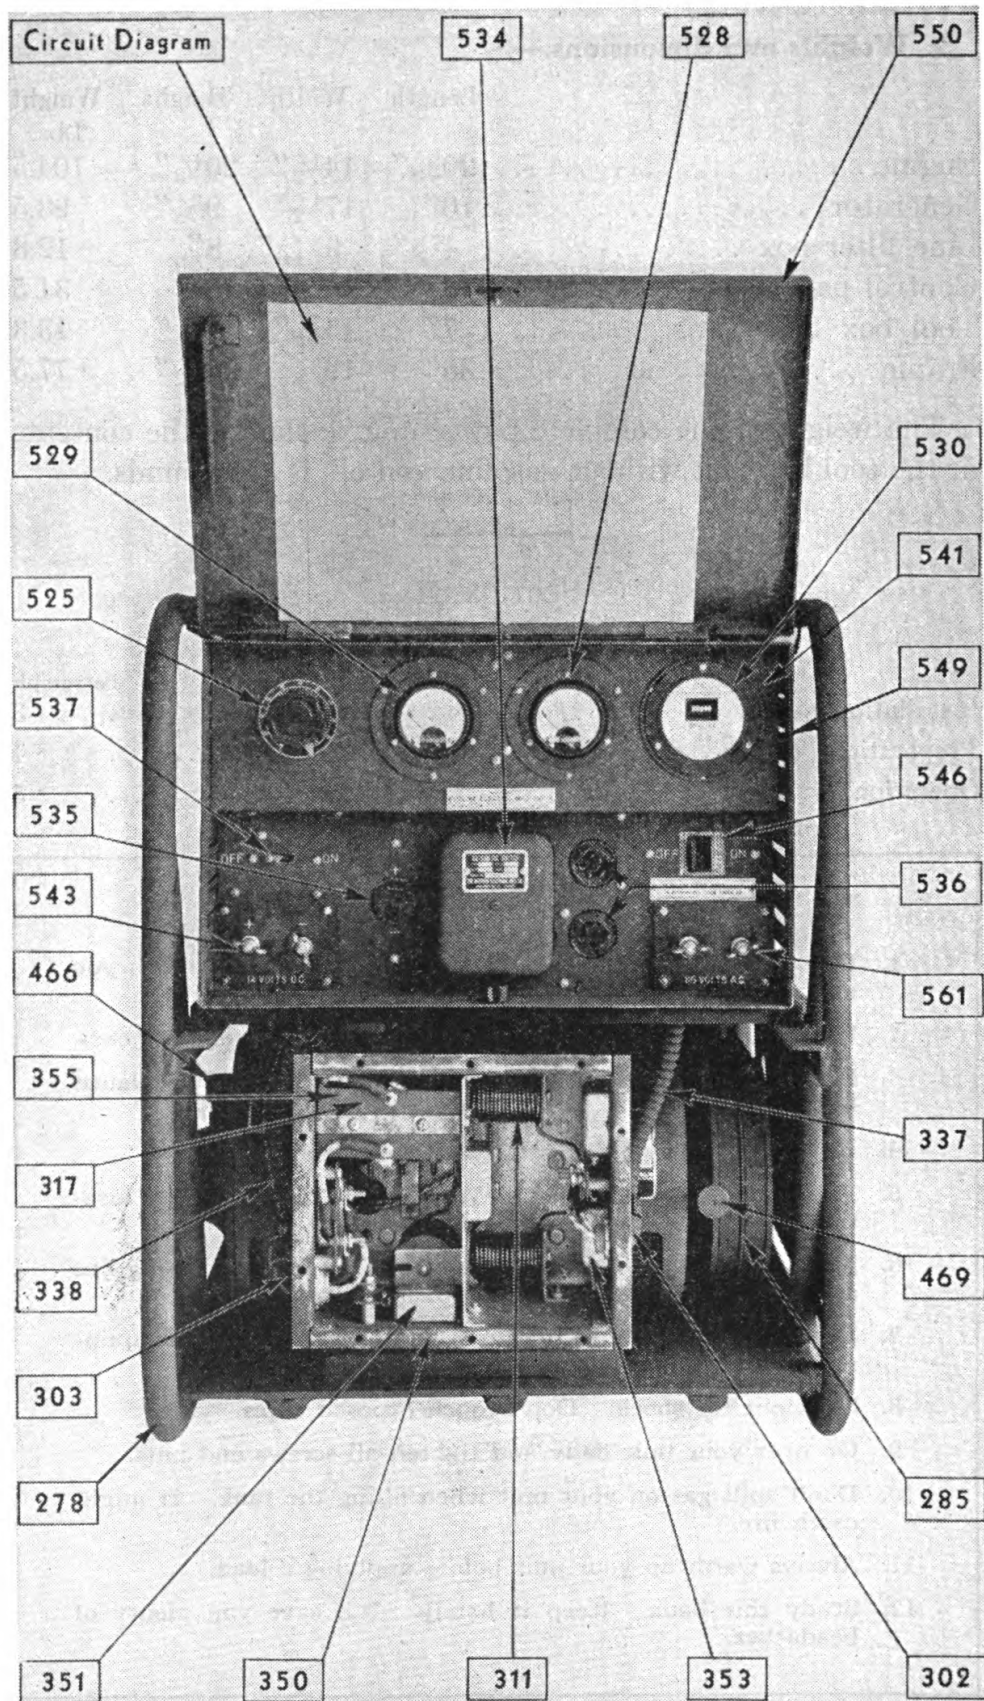
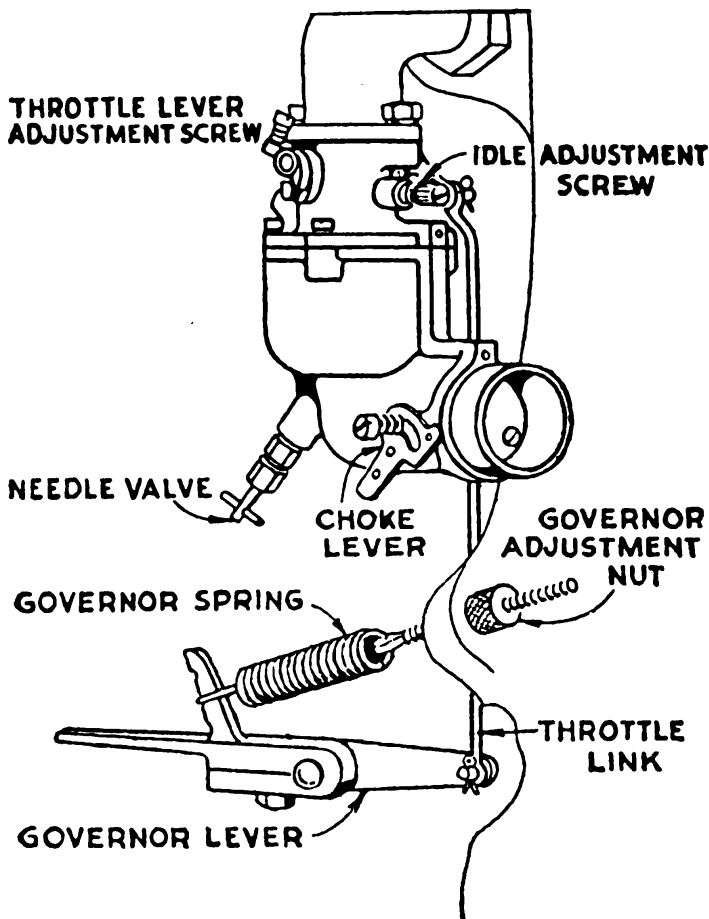

FIG. 4. PANEL BOARD AND FILTER BOX
FIG. 8. CARBURETOR AND GOVERNOR HOOK-UP
c. Line Filter box.—Directly connected to the generator is the line filter box (Fig. 4), which is designed to filter line noises and prevent radio interference on both the a-c and d-c lines. The a-c side contains two radio frequency choke coils of 95 mh inductance at 1500 kc, two .5x.5 mfd. condensers and one .6 mfd. condenser. The d-c side contains two radio frequency choke coils of 63 mh inductance at 2200 kc, one radio frequency choke coil of 95 mh inductance at 1500 kc, one .5x.5 mfd. condenser, one .6 mfd. condenser and three 3.5 mfd. condensers. The a-c and d-c sides are separated by a metal partition and they are both enclosed in a single sheet steel box with a weatherproof cover.
d. Control panel box.—Power leads from the line filter lead directly to the control panel box (Fig. 4), which is shock-proof mounted on the frame just above the generator. The panel board within the box contains a field rheostat which controls both
e. *Load Connections.*—All load connections are made at the control panel board (see fig. 4). The cover of the panel box may be held securely in the open position by means of the eye hook provided on the top of the panel box. The a-c load is connected to the a-c terminals (561, Fig. 4) and/or the lock-type receptacles (536, Fig. 4) on the right side of the panel board. The a-c load is connected to either the d-c terminals (543, Fig. 4) or the polarized receptacle (535, Fig. 4) on the left side of the panel board. The field rheostat (525, Fig. 4) located on the panel board controls both a-c and d-c voltage. The rheostat (531) on the rear side of the panel board controls the d-c output for charging 6 and 12-volt batteries. When using the a-c and d-c circuit at the same time, set as follows: regulate the field rheostat (525) to the determined a-c voltage, then adjust d-c charging rate with the rheostat
(531) located on the rear side of the panel box. In case the d-c load lowers the a-c voltage, readjust both rheostats. **CAUTION:** if the field rheostat is set so as to cause the a-c voltage to drop below 60 volts, the load must be removed by opening the a-c switch (546, Fig. 4) before the alternator will rebuild. The a-c output is controlled by the **OFF-ON** switch (546, Fig. 4) on the right side of the panel board. The d-c output is controlled by the **OFF-ON** switch (537, Fig. 4) on the left side of the panel board. When starting the unit in cold weather, allow the unit to run for 10 to 15 minutes before using any load. This permits the unit to warm up and the no-load voltage to decrease to a safe value.
f. Adjusting Frequency.—The frequency meter (530, Fig. 4) is located on the upper right side of the panel board, and will indicate frequency from 58 to 62 cycles. The frequency should be kept as close to 60 cycles as possible under load or 62 cycles at no load. The frequency of the a-c output is controlled by the speed of the engine. The speed of the engine is controlled by a centrifugal governor (118) and is carefully adjusted to maintain normal speed under load. If absolutely necessary the speed of the engine, and consequently the frequency of the a-c output, must be changed by increasing or decreasing the tension of the governor spring (117, Fig. 8). The tension of the governor spring may be increased by turning the governor adjustment nut (166, Fig. 8) clockwise, and decreased by turning the adjustment nut counter-clockwise. See para. 5f.